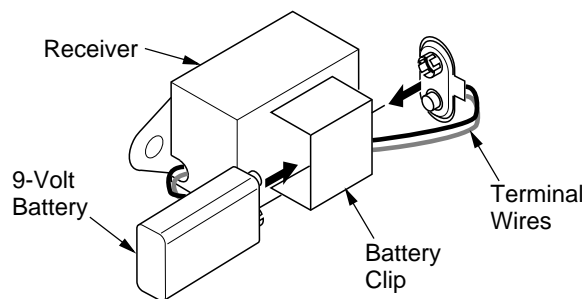

Figure 51 - Installing Battery in Receiver
3. Install 9-volt battery (not included) into receiver battery clip and connect to terminals (see Figure 51).